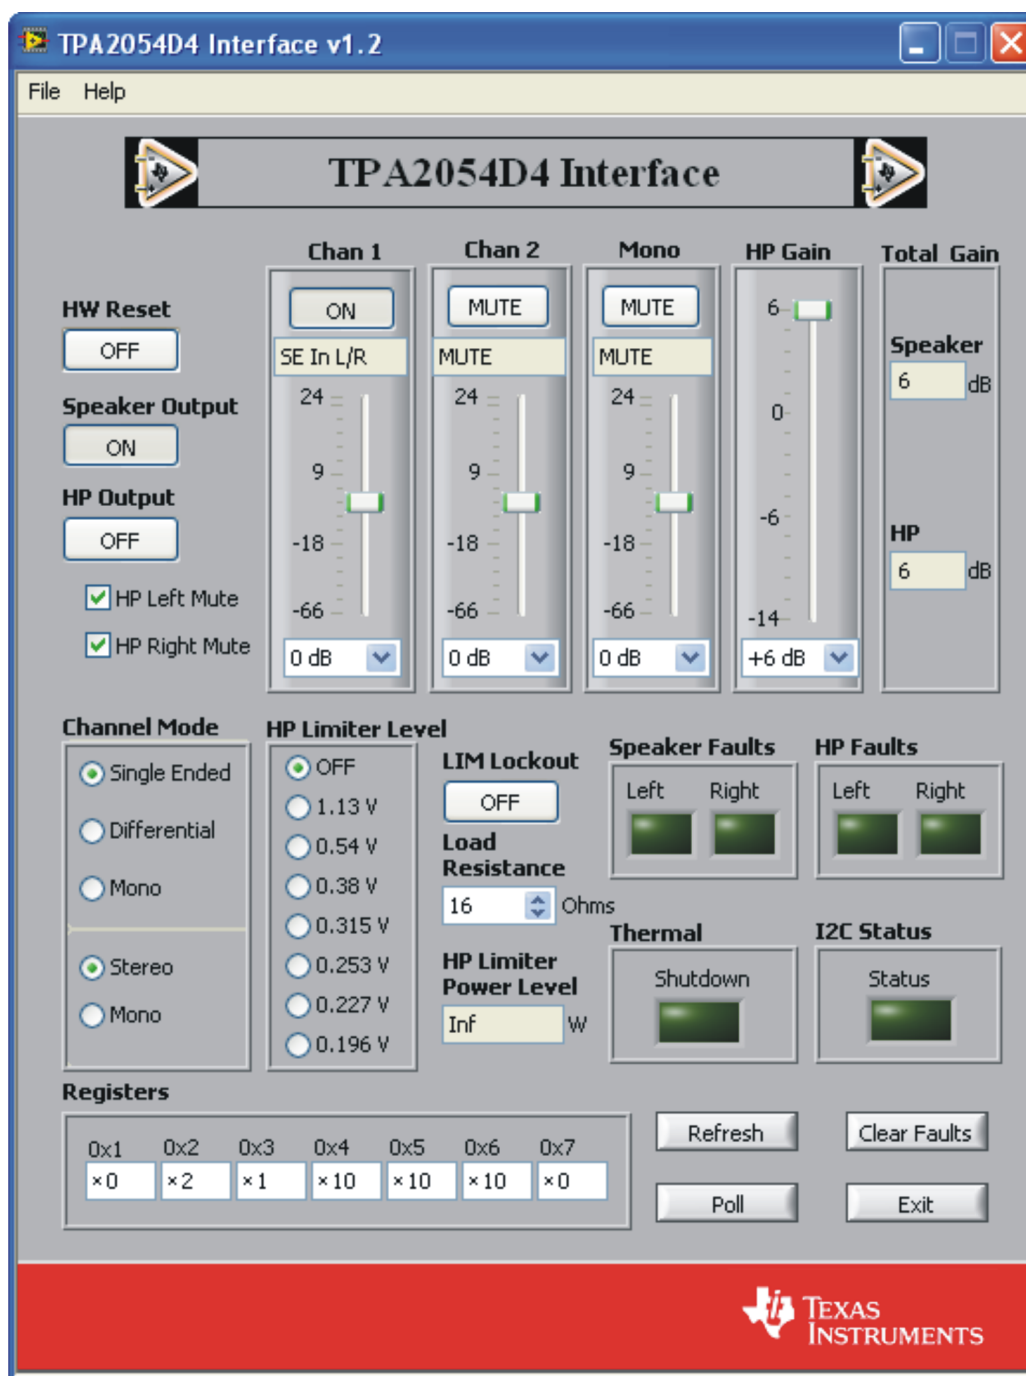

Figure 5. TPA2054D4EVM Graphical User Interface
- The TPA2054D4 software graphical user interface displays as shown in Figure 5.